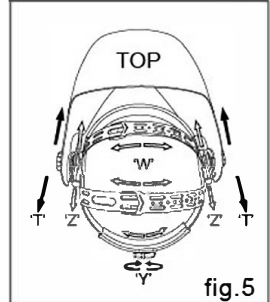

fig.5
The overall circumference of the headgear can be made larger or smaller by rotating the knob on the back of the headgear. (See adjustment “Y” in fig.5). This can be done while wearing the helmet and allows just the right tension to be set to keep the helmet firmly on the head without it being too tight.
- If the headgear is riding too high or too low on your head, adjust the strap which passes over the top of your head. To do this release the end of the band by pushing the locking pin out of the hole in the band. Slide the two portions of the band to a greater or lesser width as required and push the locking pin through the nearest hole. (See adjustment “W” in fig.5).
Step 1: Undo the block nut (See “T” in fig.5) to adjust the distance between the helmet and your face in the down position.
Step 2: Loosen the block nut on either side of the helmet and slide it nearer or further from your face. (See adjustment “Z” in fig.5). It is important that your eyes are each the same distance from the lens. Otherwise the darkening effect may appear uneven.